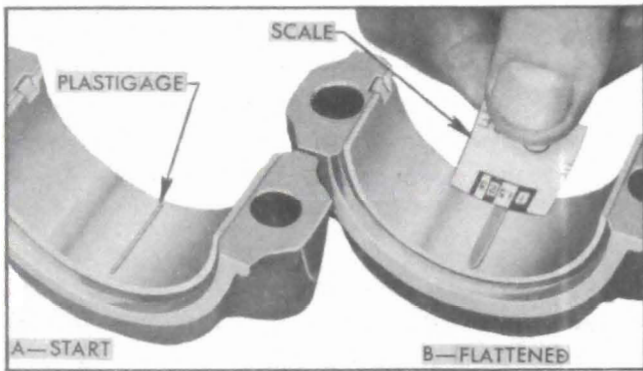

Figure 2-28—Checking Bearing Clearance with Plastigage
2. Place a piece of Plastigage lengthwise along the bottom center of the lower bearing shell (fig. 2-28, view A), then install cap with shell and tighten bolt nuts to 40-45 ft. lbs. torque. NOTE: *The rib on edge of cap and the conical boss on web of rod must be toward rear of engine on all rods in right bank or toward front of engine in left bank.*
5. Using the scale printed on the Plastigage envelope, measure the flattened Plastigage at its widest point. The number within the graduation which most closely corresponds to the width of Plastigage indicates the bearing clearance in thousandths of an inch. See figure 2-28, view B.